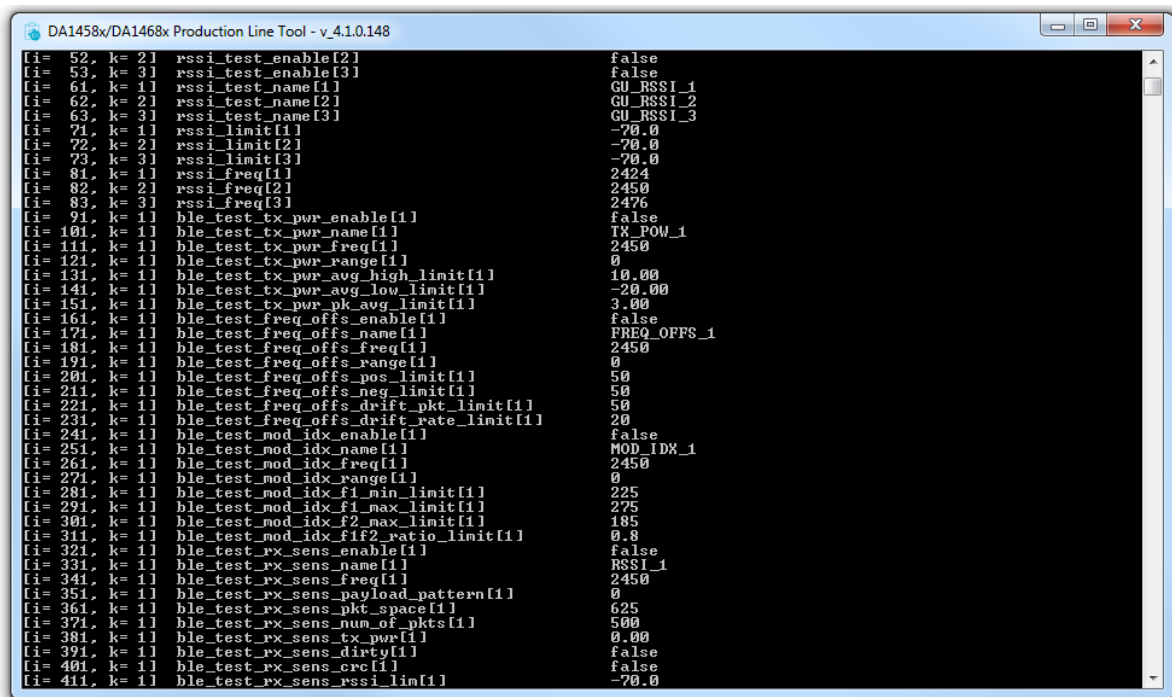

Figure 112: CLI PLT Print Settings (x Command)
- Because the configuration file is automatically loaded, use the 'x' command (Figure 112) to see the loaded settings. Errors will be shown in red.